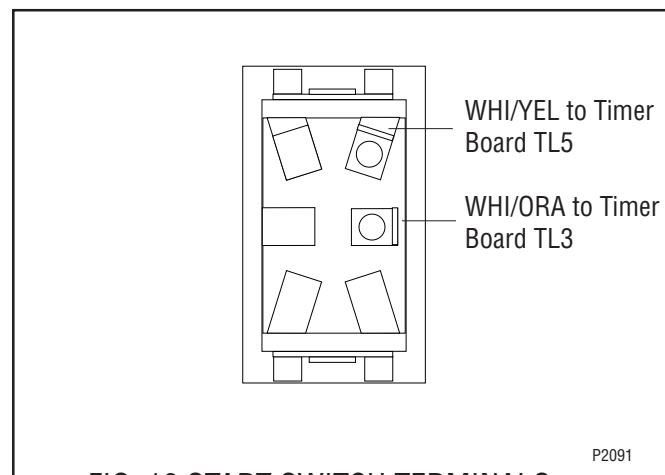

FIG. 19 START SWITCH TERMINALS
4. Refer to Fig. 19 when reconnecting the wires.